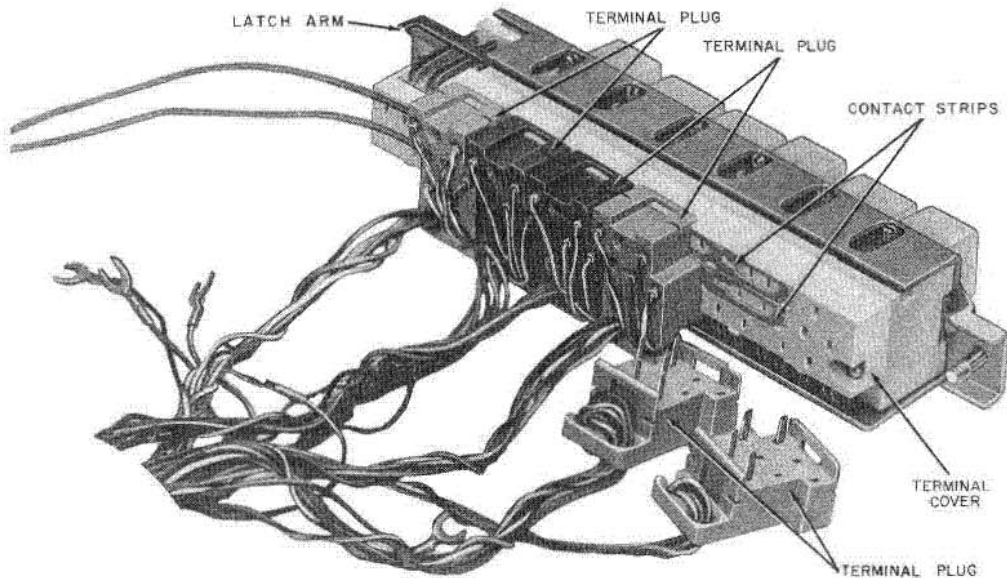

Fig. 7.—Typical Connections to 635-Type Key
- (1) Loosen captive screws at each end of key module.
- (2) Lift key out of key frame disengaging key latch arm from pivot bar.
- (3) Turn key counterclockwise and unplug 508-type and 509A plugs (Fig. 7).
- (4) Remove contact strips from key module.
- (2) Connect 508-type and 509A plugs to proper receptacles (Fig. 7).
- (3) Position key in key frame making certain that latch arm engages in the pivot bar.
- (4) Secure key with captive screws at top and bottom of key.
- (5) Test keys for proper operation (random test from module to module).